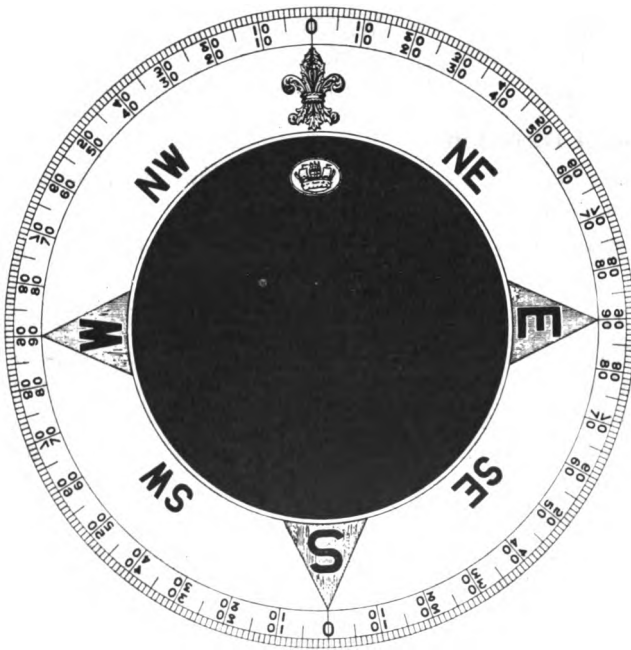

Fig. 220.—A quadrantal compass card
(3) *The Quadrantal method* (Fig. 220). Another method by which the compass card is graduated is a combination of the three-figure and the point methods, and is known as the "quadrantal method." This method is becoming obsolete in the Royal Navy, but it is still found on most of the old fashioned magnetic compass cards.